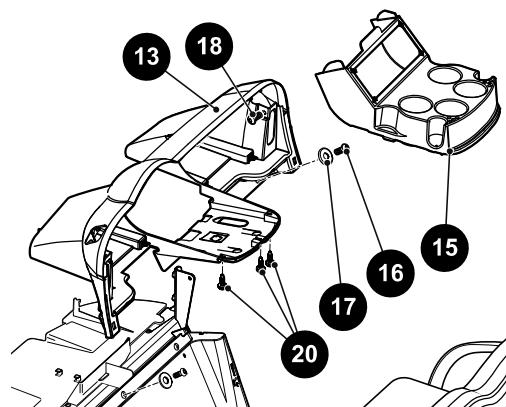

Figure 8 Instrument Panel and Cup Holder
5. Remove three self-threading screws (20) securing the cup holder assembly (15) to the instrument panel (13). Remove the cup holder. Disconnect the turn signal flasher unit and the brake switch relay if the vehicle is equipped with turn signals and brake lights (Figure 8).